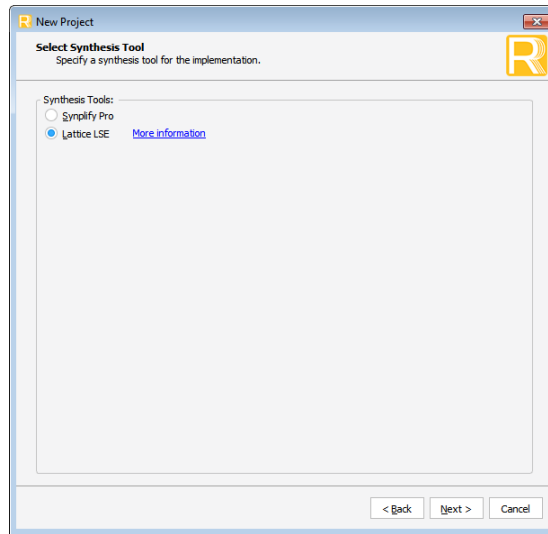

Figure 4.3. Synthesis Tool Selection
- In Select Synthesis Tool, shown in Figure 4.3, select the synthesis tool to use. Click **Next**.